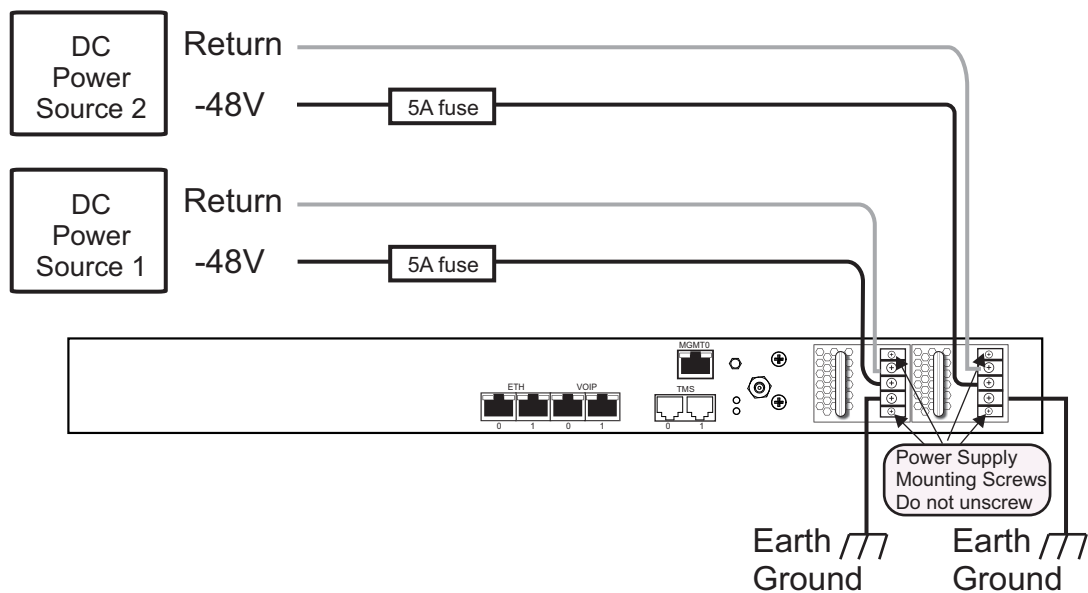

Figure 4.5 DC Power Connection
1. Connect one wire from the positive terminal of the TSBC-HW-TRANS to the return side of DC power source one, as shown in figure 4.5 on page 30.